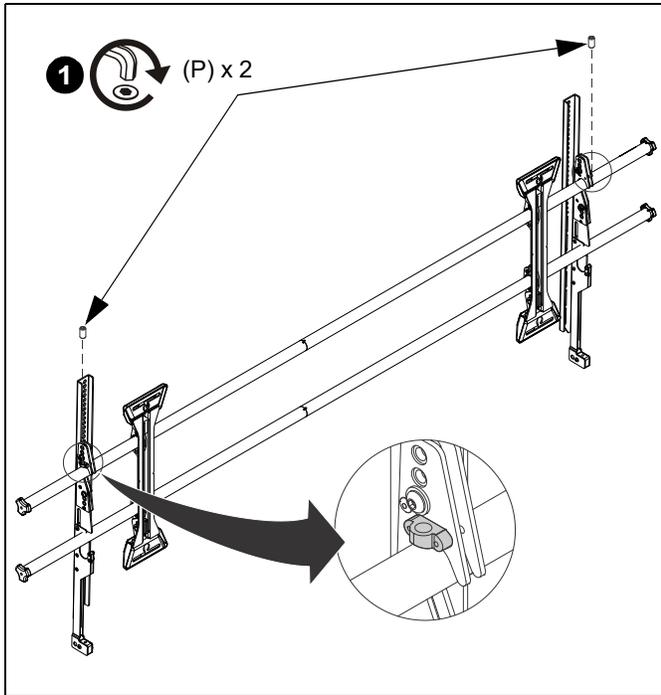

Figure 20
1. Lock screen interface brackets onto mount rails using one 3/8-16 x 3/4" set screw (P) on each interface bracket. (See Figure 20)